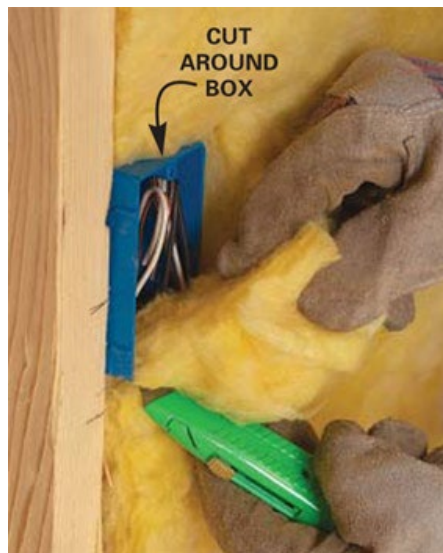

Figure 12-8. Insulating Around Electrical Box.
8. Cut out around electrical boxes, as tightly to the box as possible (see EXAMPLE below and Figure 12-8).